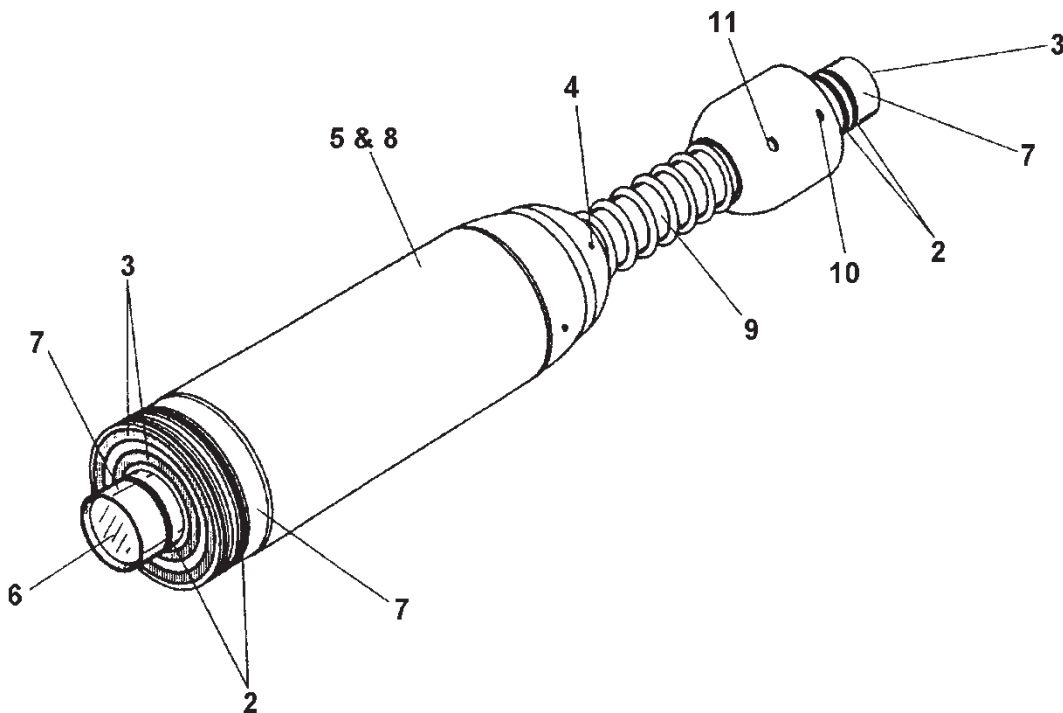

Figure 2.2 P235/P415 Camera – Preparation
2. Check the 'O' rings (2) (four in total) and replace if damaged. Apply a thin film of silicon grease.
3. Examine the sliprings (3) at front and rear for cleanliness and wear. Do not use if scratched or pitted. Clean with Ambersil Ambertron and apply a thin film of silicon grease.
4. Check the three M3x5 socket head grub screws (4) in hose connector for tightness.
5. Check that the certification engraving on the camera body (5) is shown in Figure 2.2.
6. Check that front glass (6) is not cracked. Clean using soft cloth and Ambersil Ambertron spray.
7. Check appearance of the flame paths (7). Do not use if scratched or distorted. Read the note at the beginning of Section 2 about flame paths if you are unsure about inspecting them.
8. Check body (8). Do not use camera if body is dented or distorted. (See warning).
9. Check hose (9) is not cracked or split.
10. Check three M2x3 socket head cap screws (10) are in place on the sonde connector.